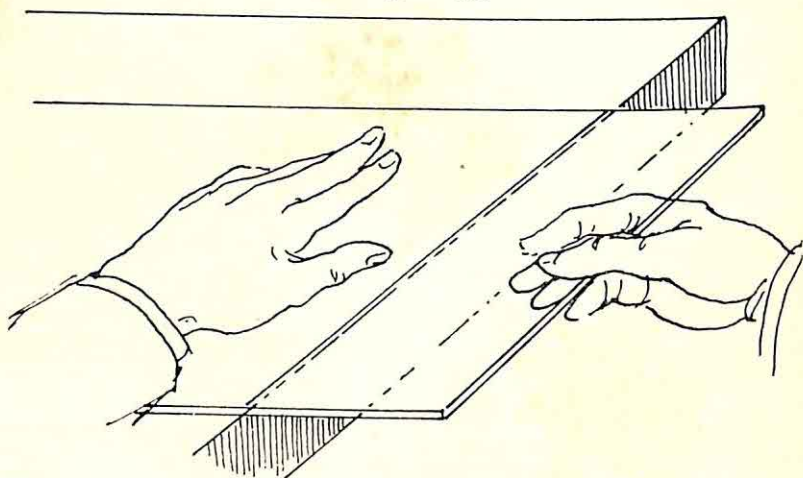

Figure 79
1. Place the scored line (score-side up) directly over the edge of the table. Holding the glass in position with one hand, grasp the projecting section with the other and apply a firm downward pressure (see Figure 79).